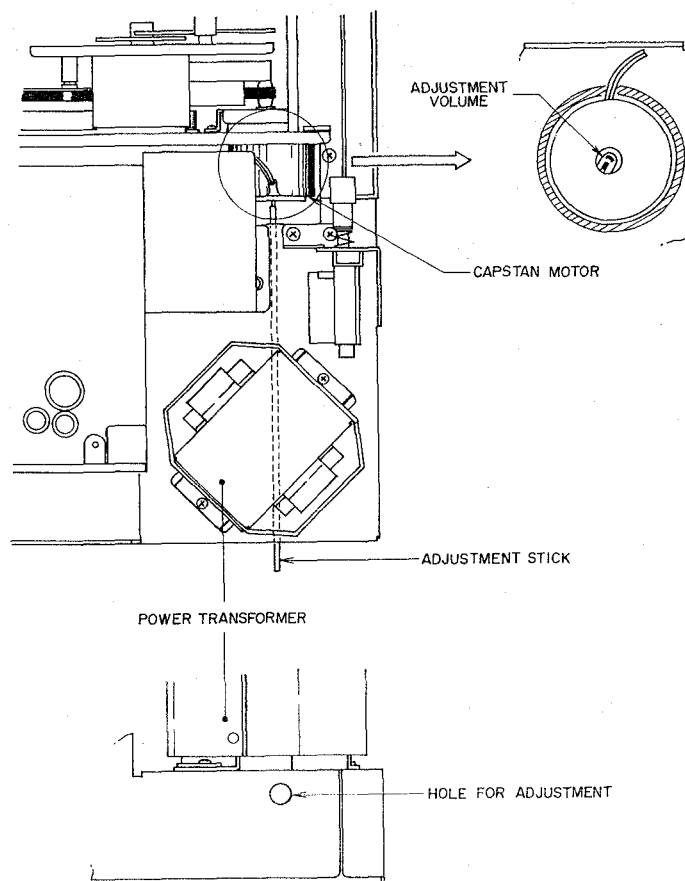

Fig. 14 Tape Speed Adjustment
9. Tape Speed Adjustment (Refer to Fig. 14)